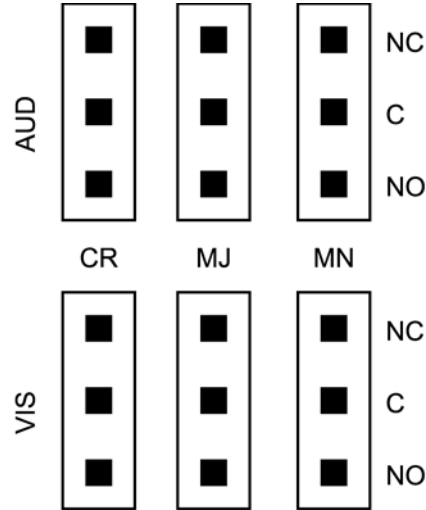

Figure 3-21. Alarm Connector
Connect the TimeSource 3100 alarms to the office alarm panel at the critical (CR), major (MJ), and minor (MN) wire-wrap pins. See Figure 3-8 for the location of the alarm pins, and Figure 3-21 for the connections.